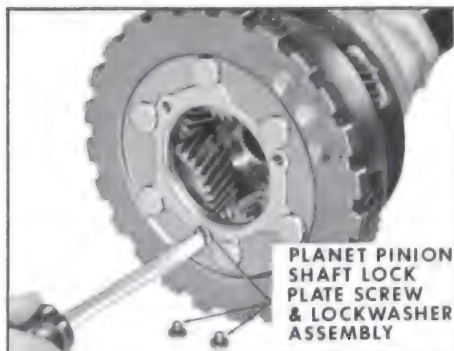

Figure 5-283
13. Install three (3) planet pinion shaft lock plate screw and lock washers. See Figure 5-283.